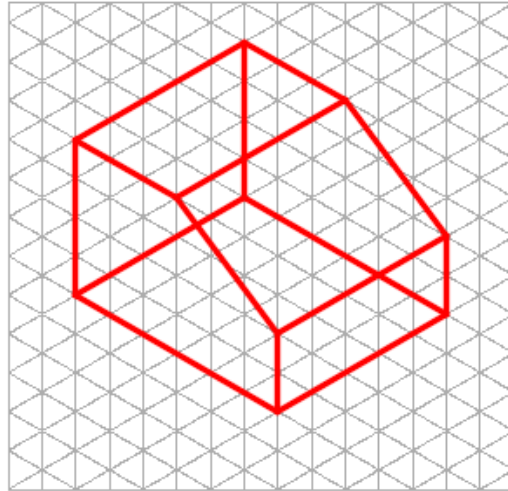

Figure Step 9
Step 9 Trim and delete the lines to complete the contour of the front view. (Figure Step 9)